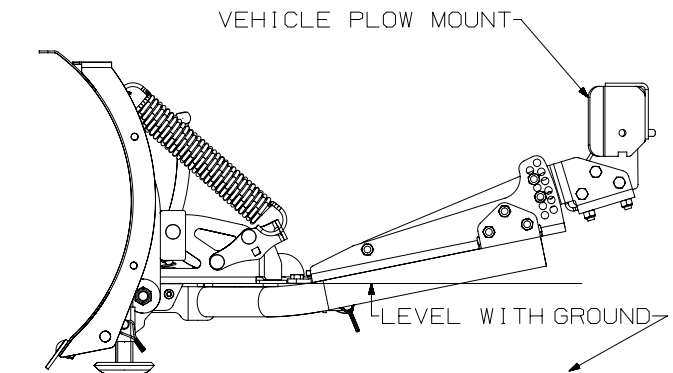

Figure 5
8. With the flanges still engaged in the plow mount, position the plow base to sit level with the ground. See figure 5.